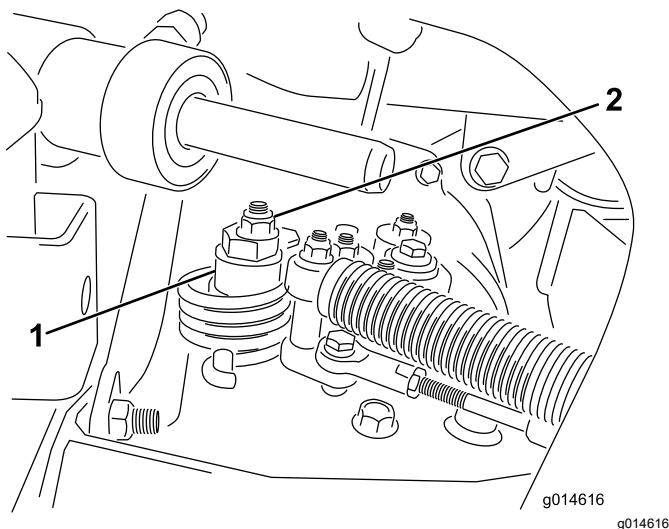

Figure 44
- A. Loosen the nut securing the eccentric to the top of the hydrostat (Figure 44).
- C. Rotate the eccentric until creep does not occur in either direction. When the wheel stops rotating, tighten the nut locking the eccentric and the adjustment (Figure 44). Verify the adjustment with the throttle in the SLOW and FAST position.